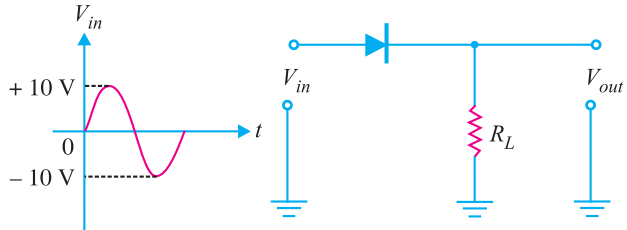

Fig. 18.67
2. In the negative series clipper shown in Fig. 18.67, what is the peak output voltage? [9.3 V]